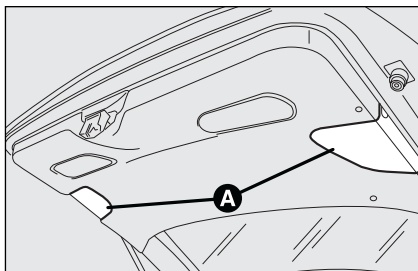
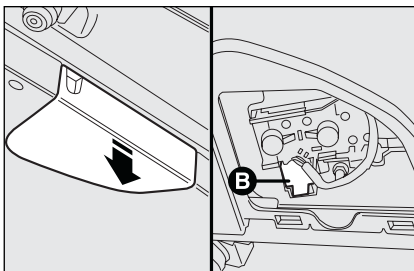

fig. 33
fig. 34
- push down cover **A**-fig. 33 and remove electric connector **B**-fig. 34;